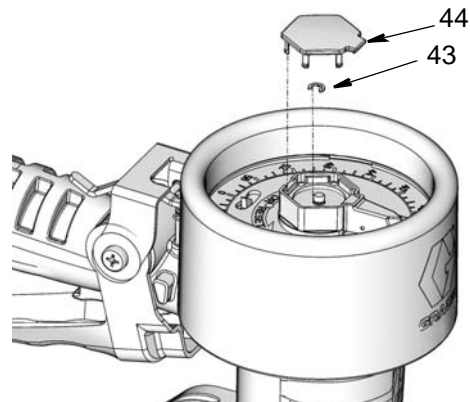

FIG. 35
5. Install small retaining ring (43) and cover (44) (FIG. 35).